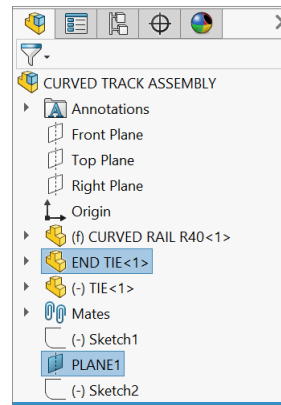

Fig. 26
Step 1. **Ctrl click End Tie** and **Plane1** component in the Feature Manager to select plane and component, **Fig. 26**.